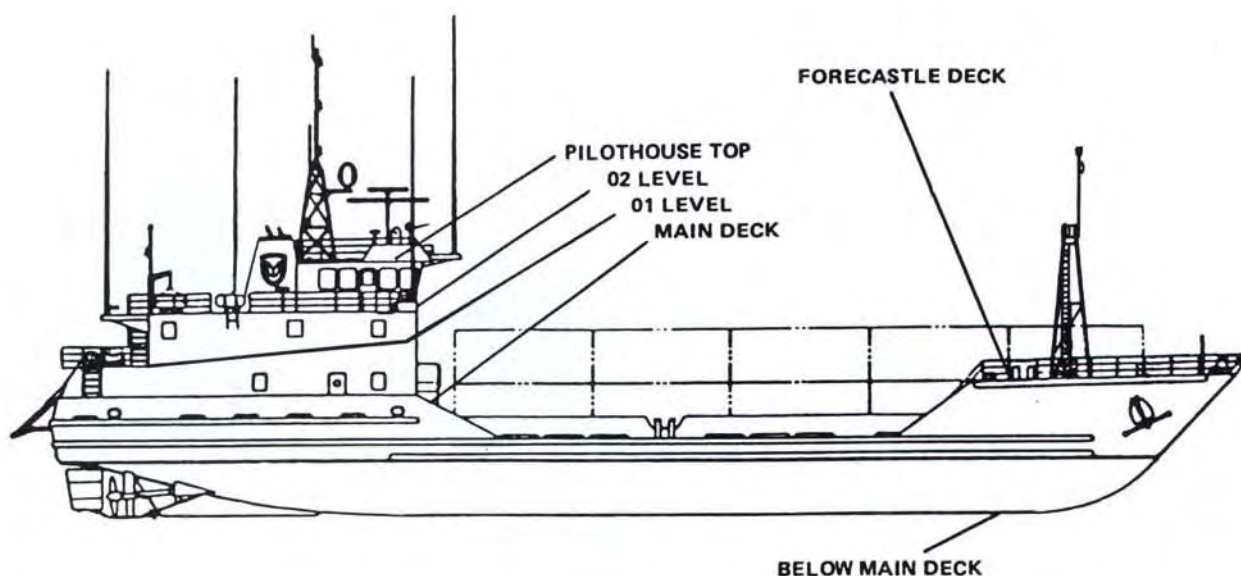

FIGURE 1-2. LCU Decks.
a. LCU Decks. Items shown on FIGURE 1-2 are described as follows.
(1) Pilothouse top. The pilothouse top (weather deck) contains radar antennas, searchlights, foam fire station, fire monitors, gyro repeater, satellite signals navigation set antenna and antenna amplifier, the binnacle compass and supports for cargo lights.
(2) 02 Level. The 02 Level includes, but is not limited to, the pilothouse and poop deck.
(3) 01 Level. The 01 Level includes, but is not limited to, crew accommodations, stern anchor winch, and the aft damage control locker.
(4) Main deck. The main deck includes, but is not limited to, the provisions storeroom, galley, mess room, recreation room, sick bay, arms control room, the air conditioning and emergency generator room, paint locker, boatswains locker, and the forward damage control locker.
(5) Forecastle deck. The forecastle deck (weather deck) is fitted with the anchor windlasses port and starboard bitts, chain stopper, and roller fairlead.
(6) Below main deck. Below the main deck are the steering gear compartment, ballast, fuel, and water tanks, fire station, engine room, tunnel, bowthruster compartment, machine shop, stowage compartments, and engine operating station.
(7) DIMENSIONS